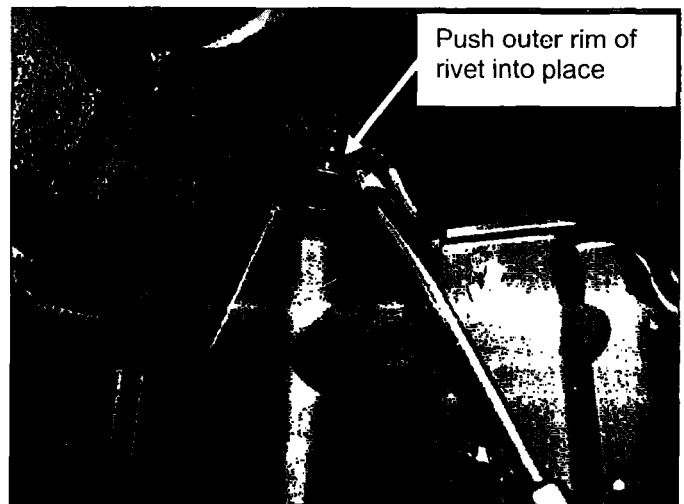

Figure 14
- Use a flat blade screwdriver to firmly push the outer rim of rivet into place (see Figure 14).